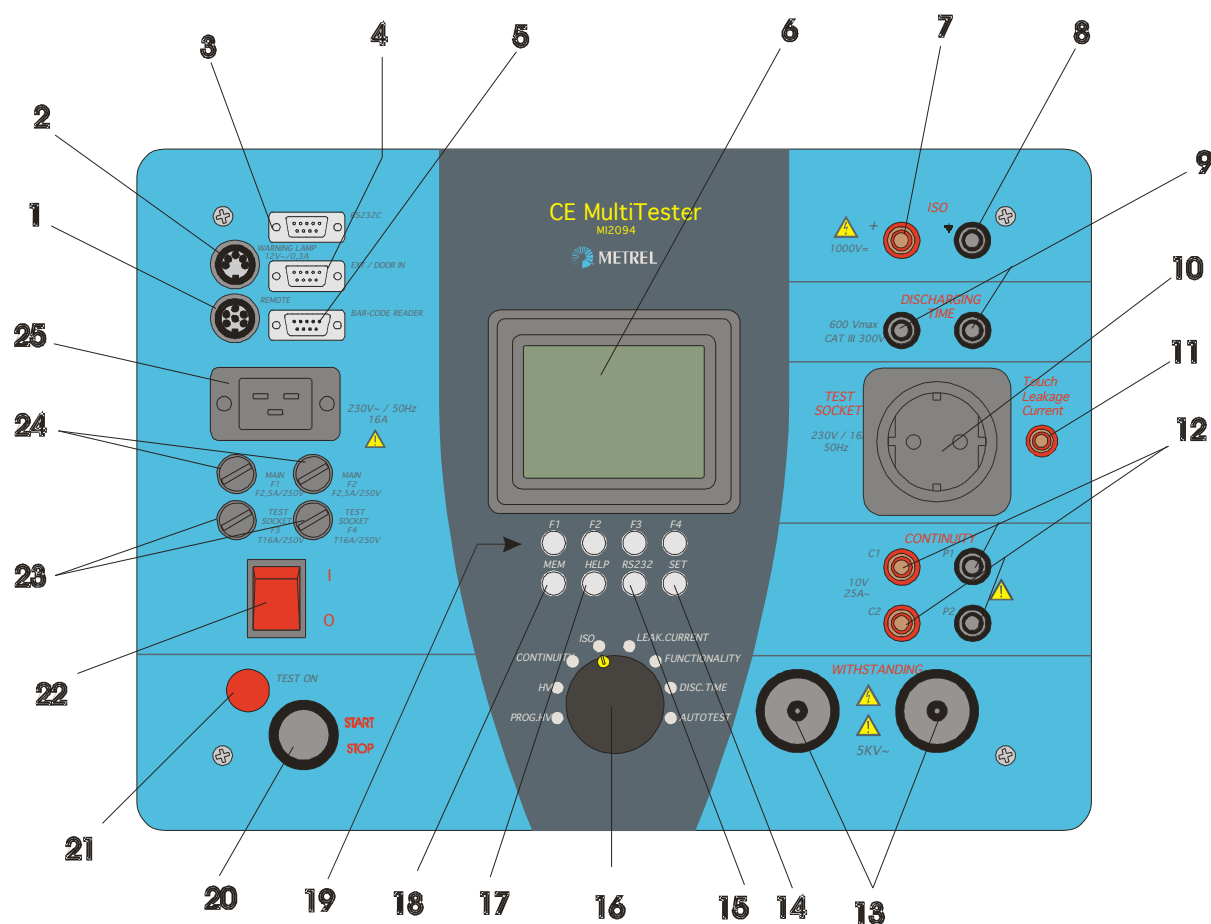

Fig.1. Front panel layout
Dangerous voltage may be present, ~~S~~switch off the instrument immediately if the red warning lamp (fig. 1., pos. 12, fig.1.) **does not** light after switching on HV generator, and service the instrument. Always handle as the test leads are energized.
Dangerous voltage is present on the TEST SOCKET (fig.1., pos.10, fig.1.) after pressing the **START/STOP** push button, ~~.~~